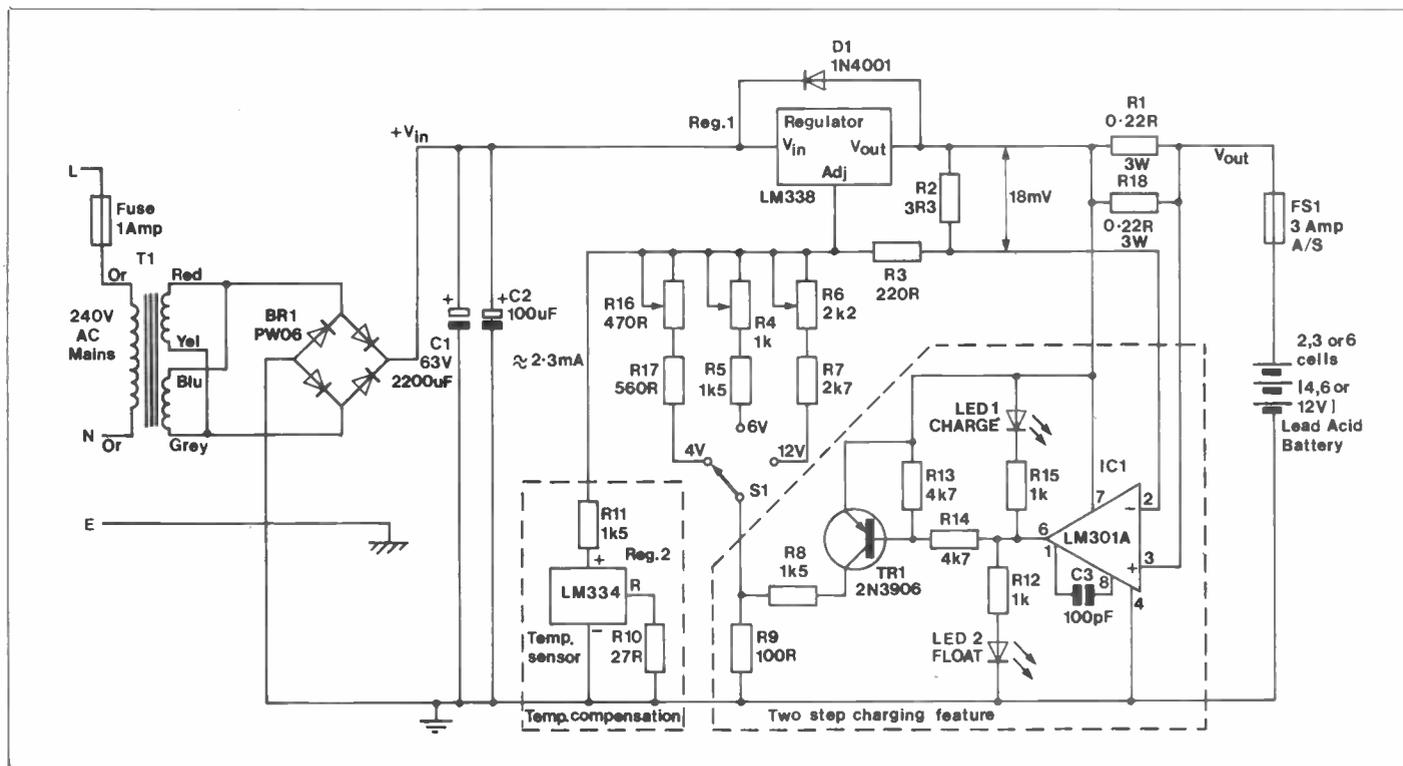

Figure 1. Circuit Diagram
**P**roperly charging sealed lead-acid batteries is very important for long trouble free battery service. The circuit shown in Figure 1 is capable of quickly and safely charging lead-acid batteries, and features temperature compensation in addition to two charging levels (with automatic switchover).